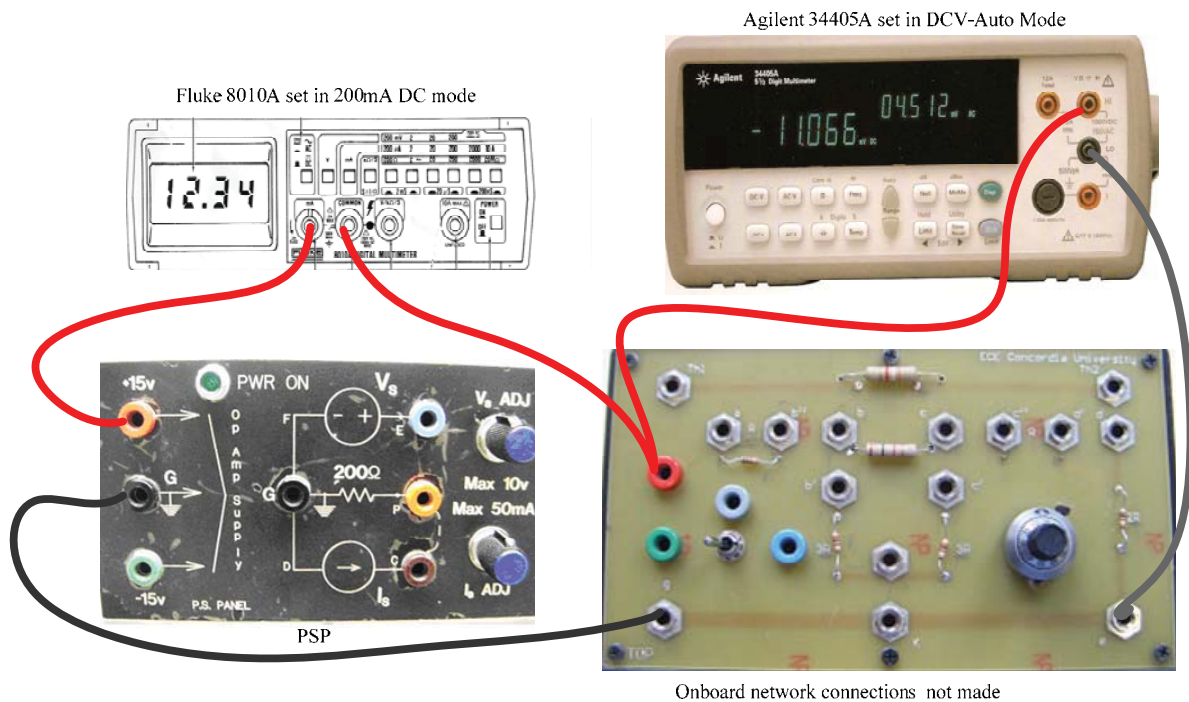

Figure 2.5
2. **Make sure that the PSP is switched OFF.** Connect the Expt#2 box to the two DMMs and to the PSP as shown in Figure 2.5 with the DMMs set in the indicated modes/ranges. Note that the nominal +15v output of the PSP is connected to the 'Red' input terminals through the Fluke DMM set in the ammeter mode and the PSP ground is connected to the (g,K) terminals on the box. The Agilent DMM is connected to measure the voltage at the above input terminals.